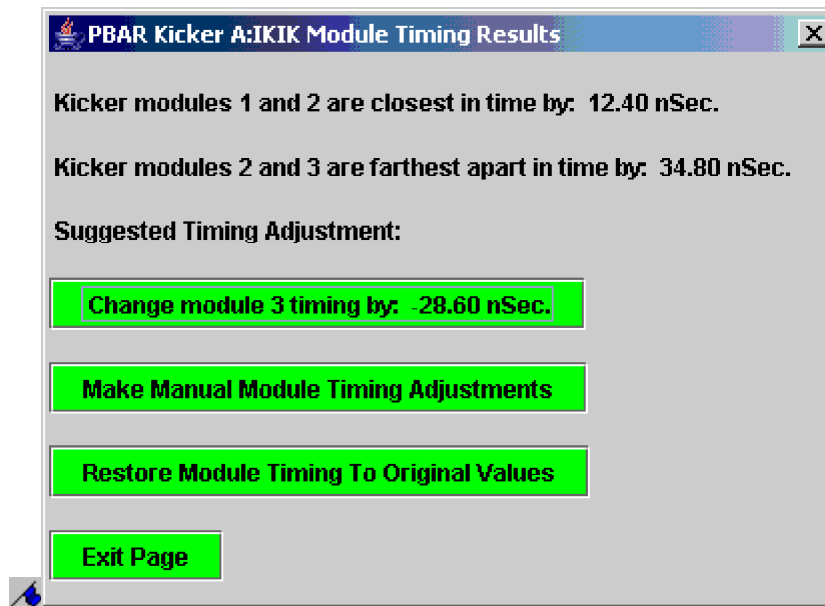

Figure 34:
14. The Timing Results window (see Figure 34) presents the results and suggested tuning options. If the changes look reasonable, then make the suggested changes. It is normal to make ~200nsec changes.